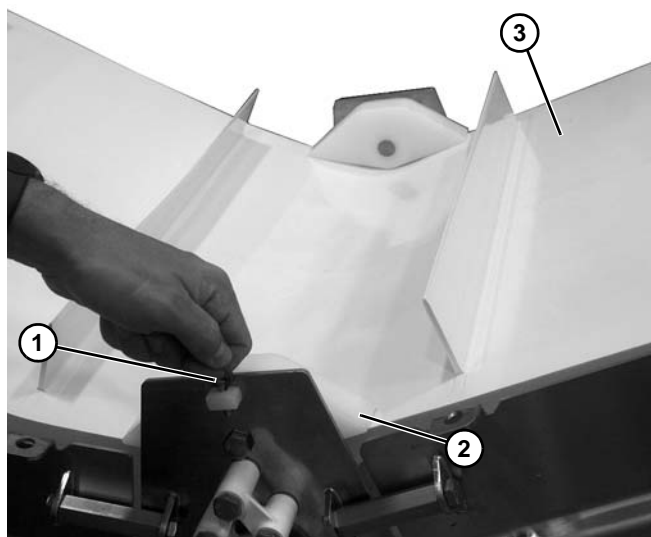

Figure 29
5. Remove pull pin (**Figure 29, item 1**) and roller guard (**Figure 29, item 2**) on each side of conveyor on lower knuckle plate.
6. Install belt (**Figure 29, item 3**) and reinstall each roller guard with pin.